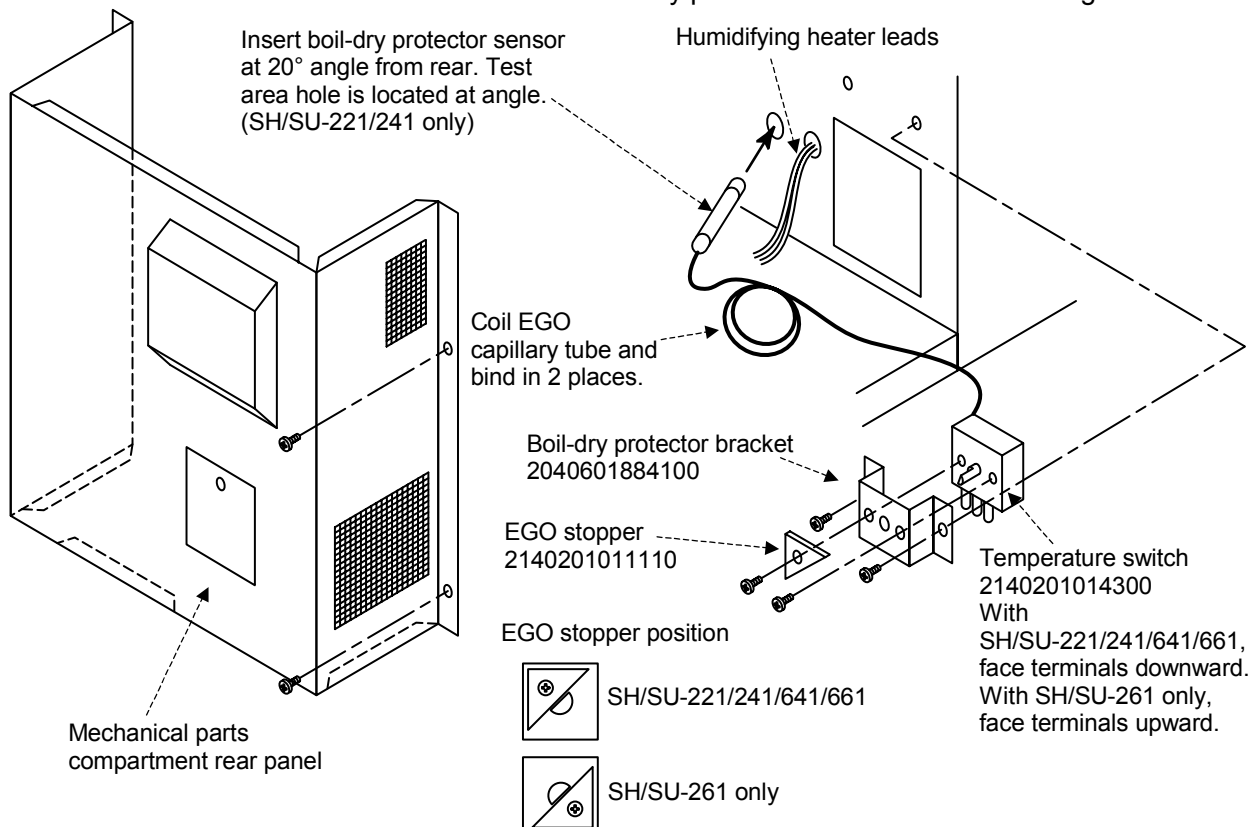

Fig. 5.25 Boil-dry protector replacement
2. Remove the screws that lock down the mechanical parts compartment rear panel and detach the panel. (See Fig. 5.25.)
Installing the EGO stopper as shown in the figure enables setter installation. (See Fig. 5.25.)